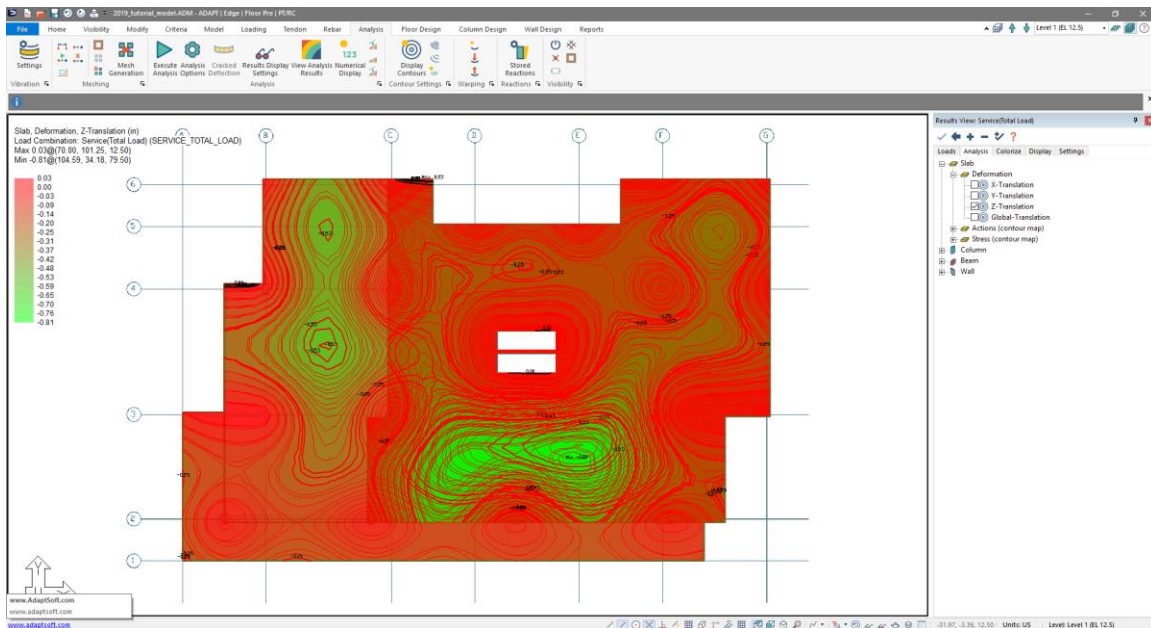

Figure 6-8
- Click on the *Zoom Extents*  icon. The user should see now see the deflection contour for all levels as shown in **FIGURE 6-8** below.